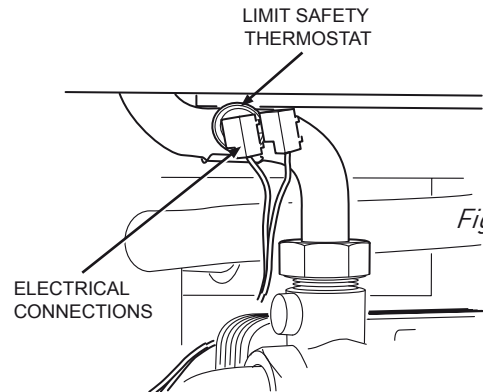

Figure 19.20
- Locate the overheat safety thermostats at the front left handside of the boiler and on the right handside of the primary heat exchanger (Figures 19.20 & 19.21)